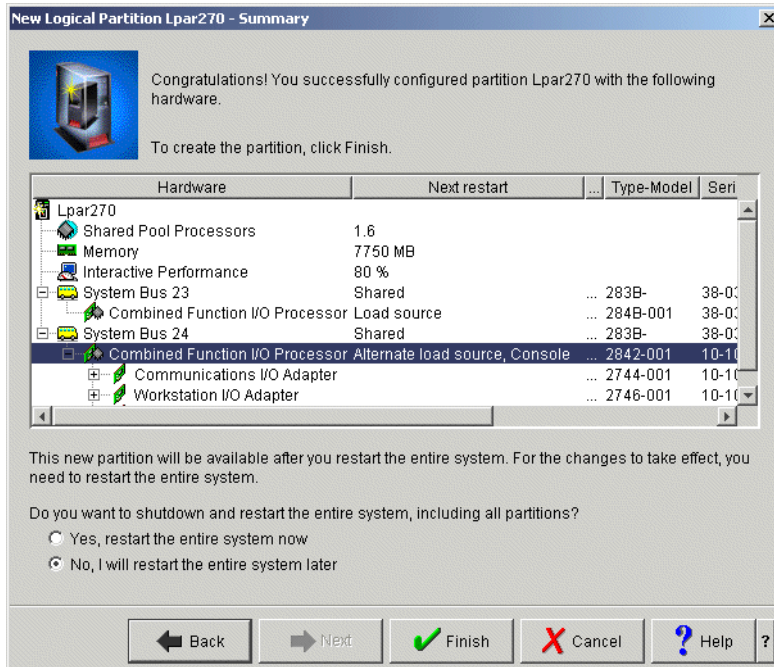

Figure 4-27 New Logical Partition - Summary window
24. The New Logical Partition - Summary window appears as shown in Figure 4-27.